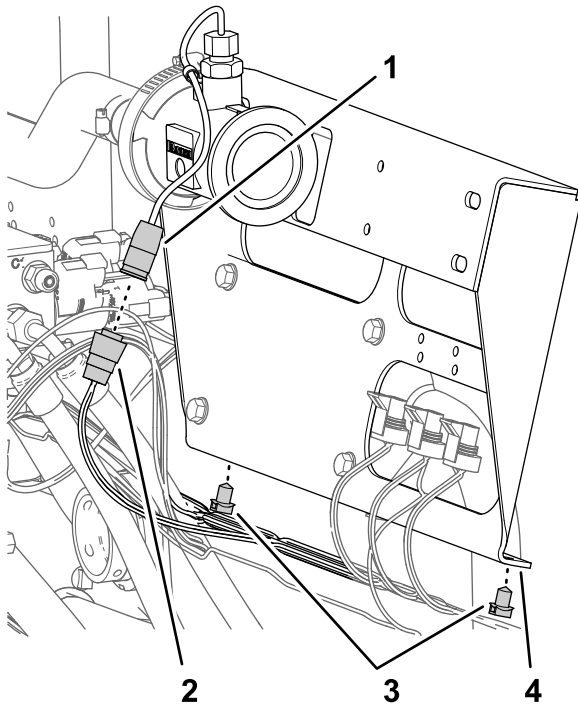

Figure 72
1. Disconnect the 3-socket connector of the machine wire harness labeled FLOW METER from the 3-pin connector of the flow meter (Figure 72).
2. Remove the 2 push-in fasteners of the machine wire harness from the bottom flange of the section-valve bracket (Figure 72).